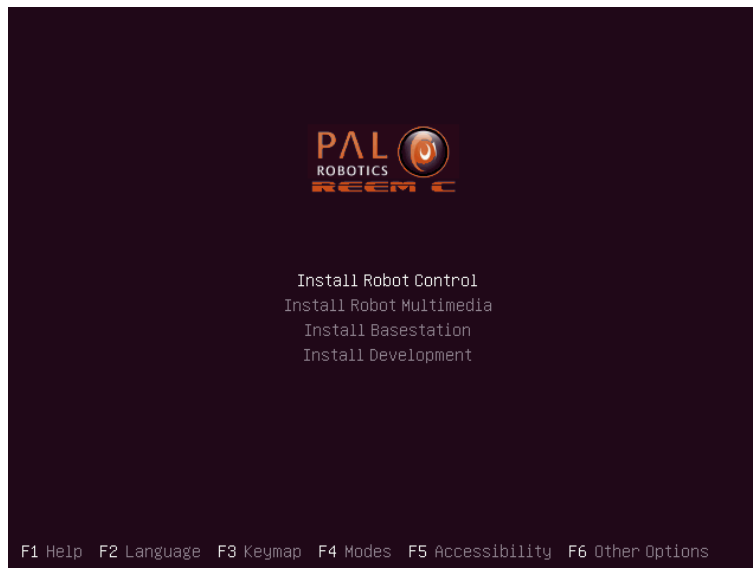

Figure 49: System installation menu
- Once the computer boots from the USB, the menu shown in Figure 49 will appear.